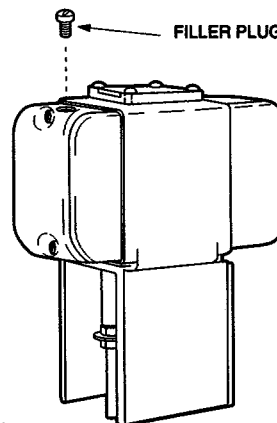

Figure 7.
2. Unscrew filler plug from top of unit (figure 7).